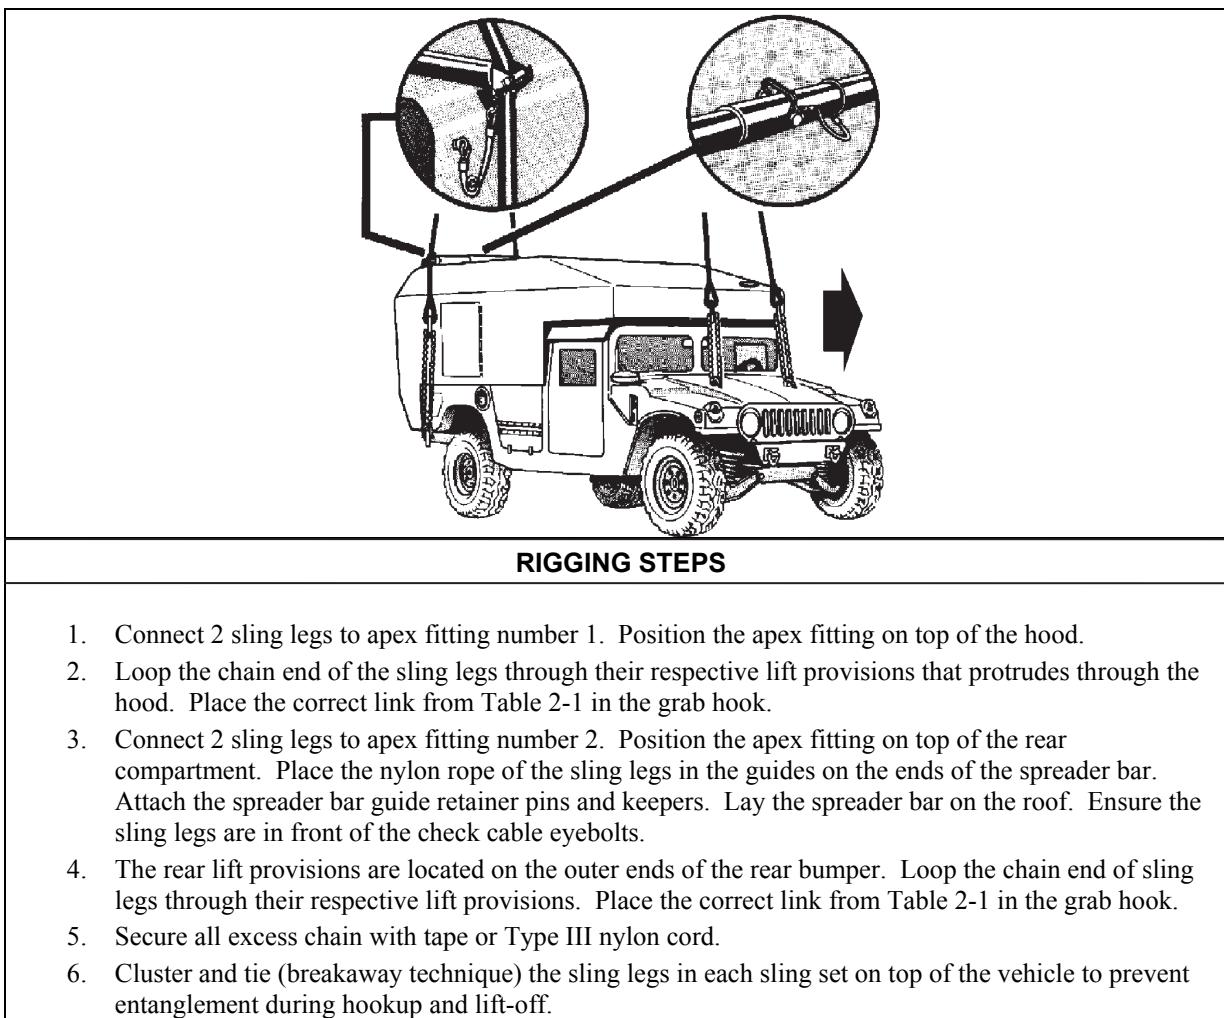

Figure 2-1. M996/M997/M997A1/M997A2 Ambulance
- Remove the keeper from the spreader bar and extend the bar so the holes line up. Reinstall pin and engage keeper. Use the sighting hole in the tube to assist in aligning holes for the pin. See top view insert in Figure 2-1.
- Position the spreader bar across the rear end of the vehicle roof. Attach the spreader bar check cables to the eyebolts located on the aft exterior sidewall of the rear compartment. See rear view insert in Figure 2-1.
- **Rigging.** Rig the load according to the steps in Figure 2-1.